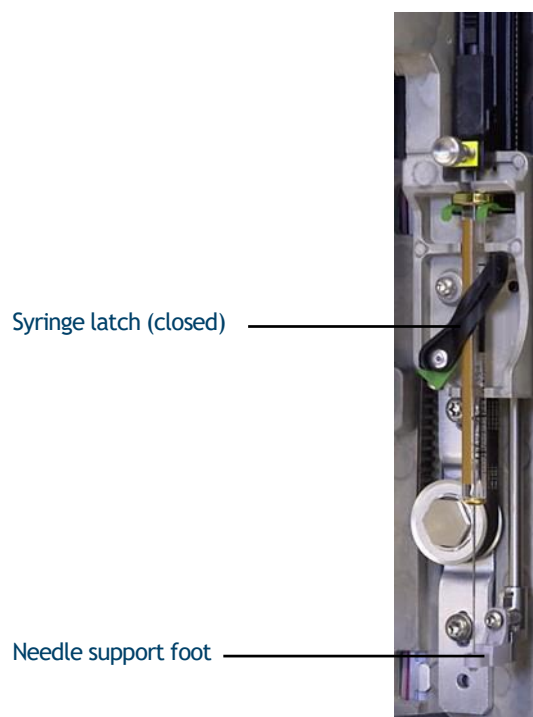

Figure 73. Syringe carriage and needle support with syringe installed
- 12 Verify that the needle is inside the guide hole of the needle support foot. The needle should be straight and pass freely through the needle guide hole. If the needle is bent or is outside the guide hole, remove the syringe and reinstall. See Figure 73 for a properly installed syringe.